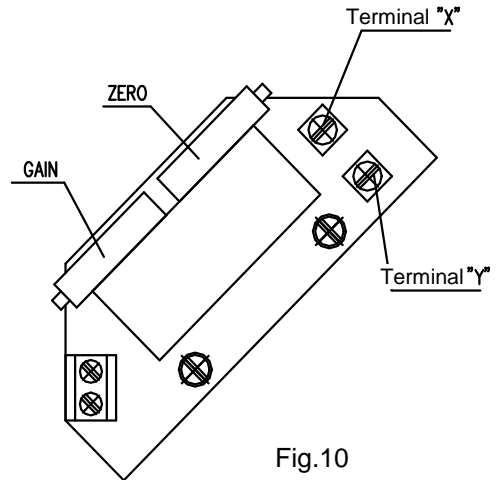

Fig.10
4.6.1 EPV – the 2-wire version (Fig. 10,10a)
- Adjust the resistive transmitter according to the previous chapter. The resistance is to be metered on the terminals X-Y (Fig. 10,10a). The used transmitter resistance is 100 Ω.